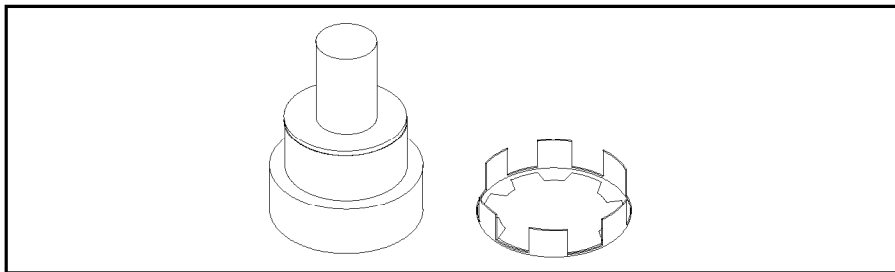

Figure 4-16. Cell Spring and Window
3. Place a cell spring on the tissue beside the window, see Figure 4-16.